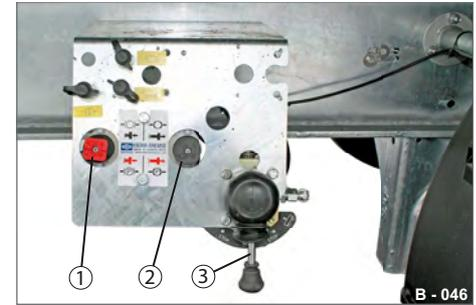

Fig. 47 Parking brake, raising/lowering system
- ▶ Check that the turning lever pneumatic suspension (Fig. 47/3) is in the neutral position.
- ▶ Engage the spring-loaded parking brake (Fig. 47/1).